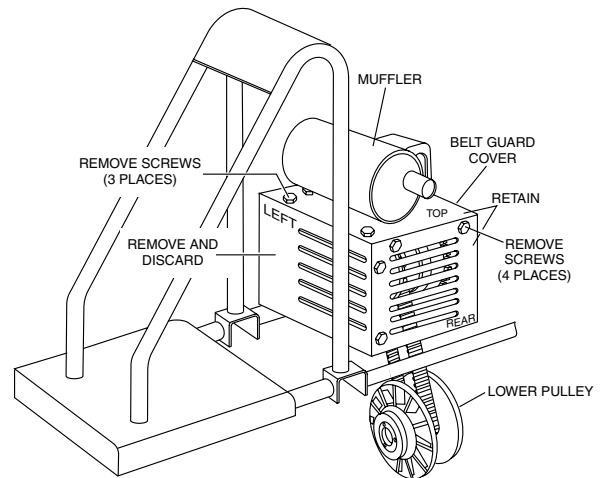

Figure 7. Belt Guard Removal
1. Remove the retaining hardware that secures the left belt guard panel. Remove panel and discard. This item will not be used in the reassembly. Reference Figure 7